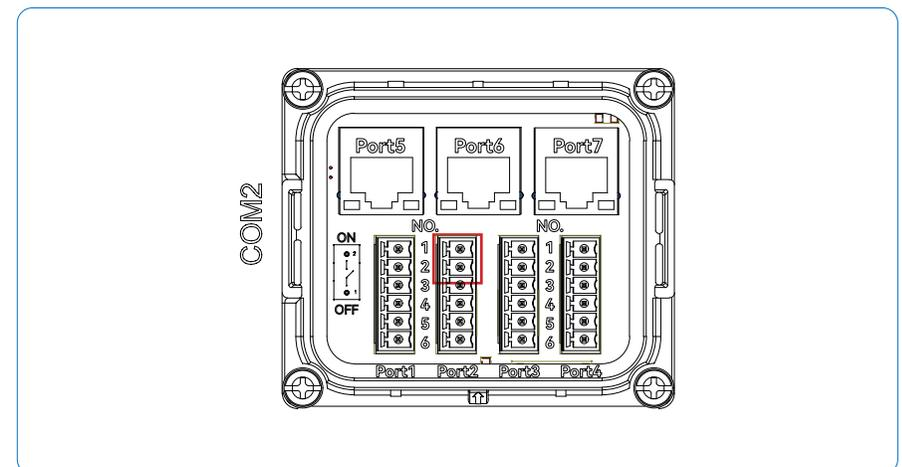

Figure 5-35
- WiFi connection succeeded as shown in Figure 5-35.